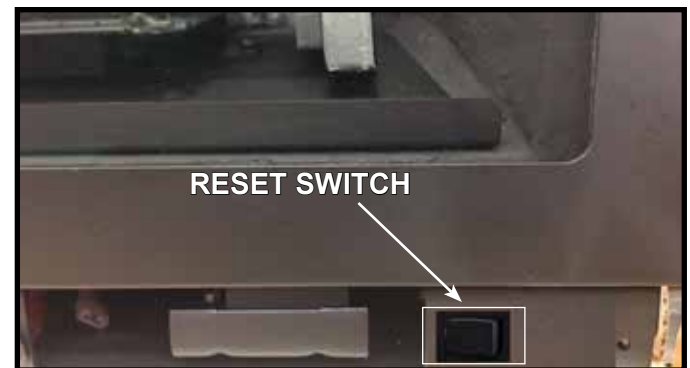

Figure 3.7 Reset Switch Location
The appliance has a reset switch located on the lower right hand side of the appliance behind the decorative barrier front. See Figure 3.7.
- Locate reset switch inside the appliance. See Figure 3.7. Hold reset switch down for one second and release. A “beep” will signal module is reset.